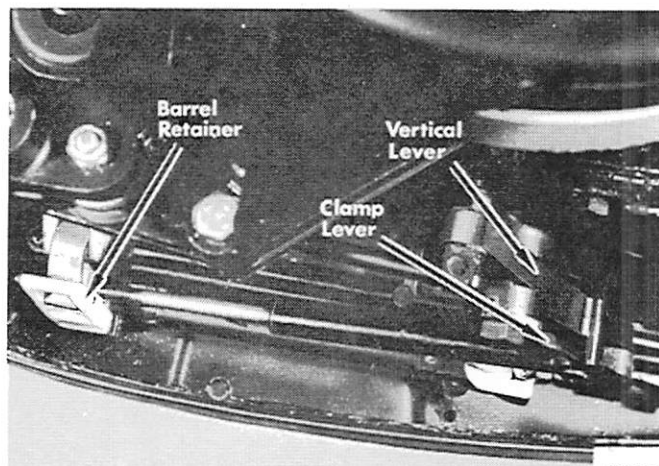

Figure 4. Throttle Cable
3. Position vertical lever so that magneto actuator is held lightly against idle stop screw. (Figure 4) Attach cable end guide to vertical lever without disturbing setting and position clamp lever over cable end guide. (Figure 4) If necessary, readjust brass barrel for correct position and to compensate for cable backlash.
4. Secure brass barrels in nylon socket by moving barrel retainer to lock position. (Figure 4)